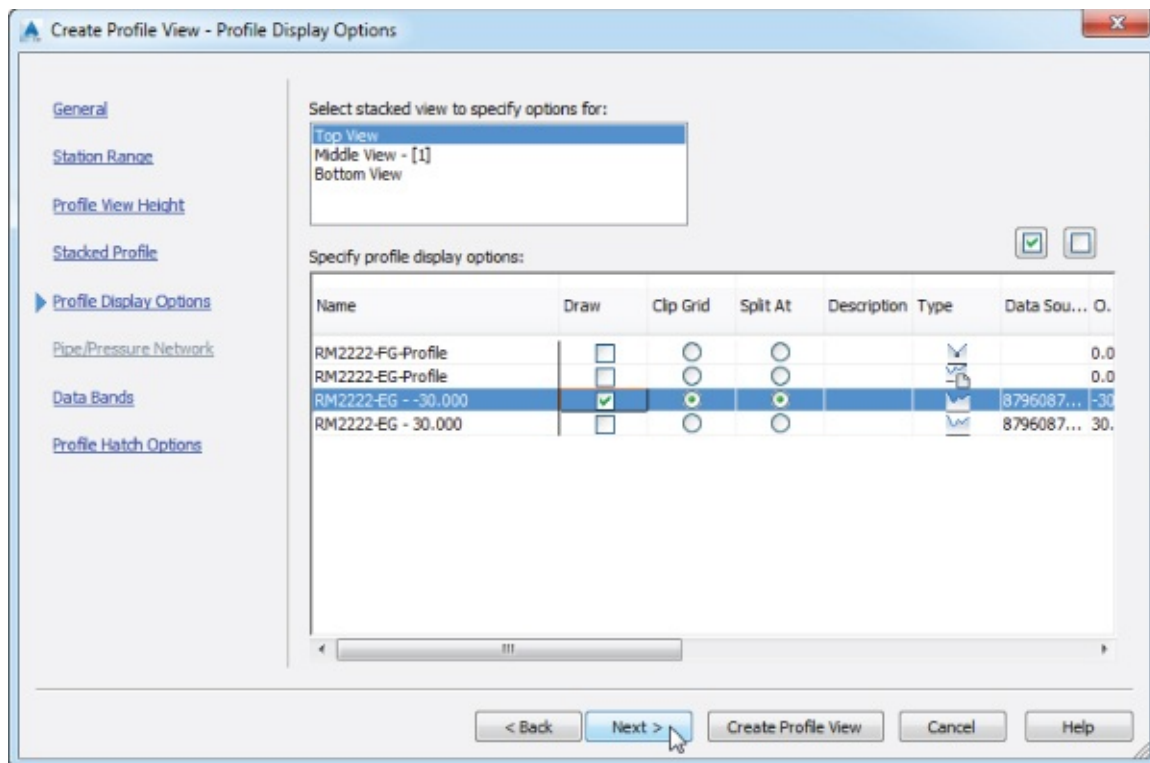

Figure 7.47 Setting the stacked view options for each view, in this case for the top view
11. Toggle the Draw option for the left offset profile (RM2222-EG - -30.000 (RM2222-EG - -10.000 for metric users)), as shown in Figure 7.47. If you need to widen the columns, you can do so by double-